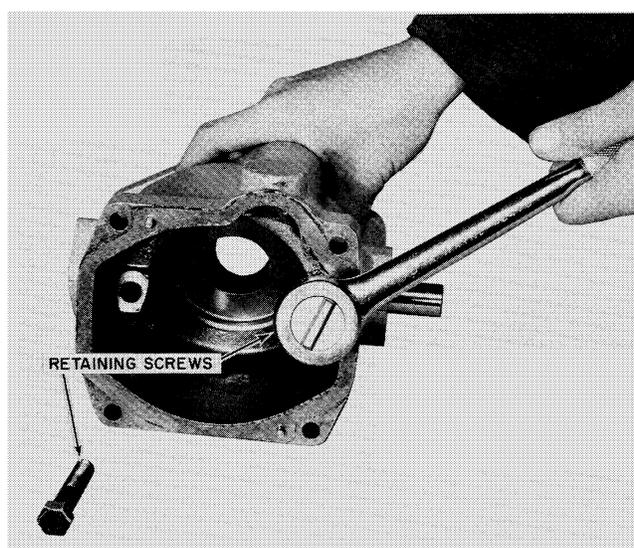

FIGURE 30
20. After the shaft has been removed, the pintles and yoke can be removed. To remove the pintles, begin by removing the retaining screws from the yoke. See Figure 30.